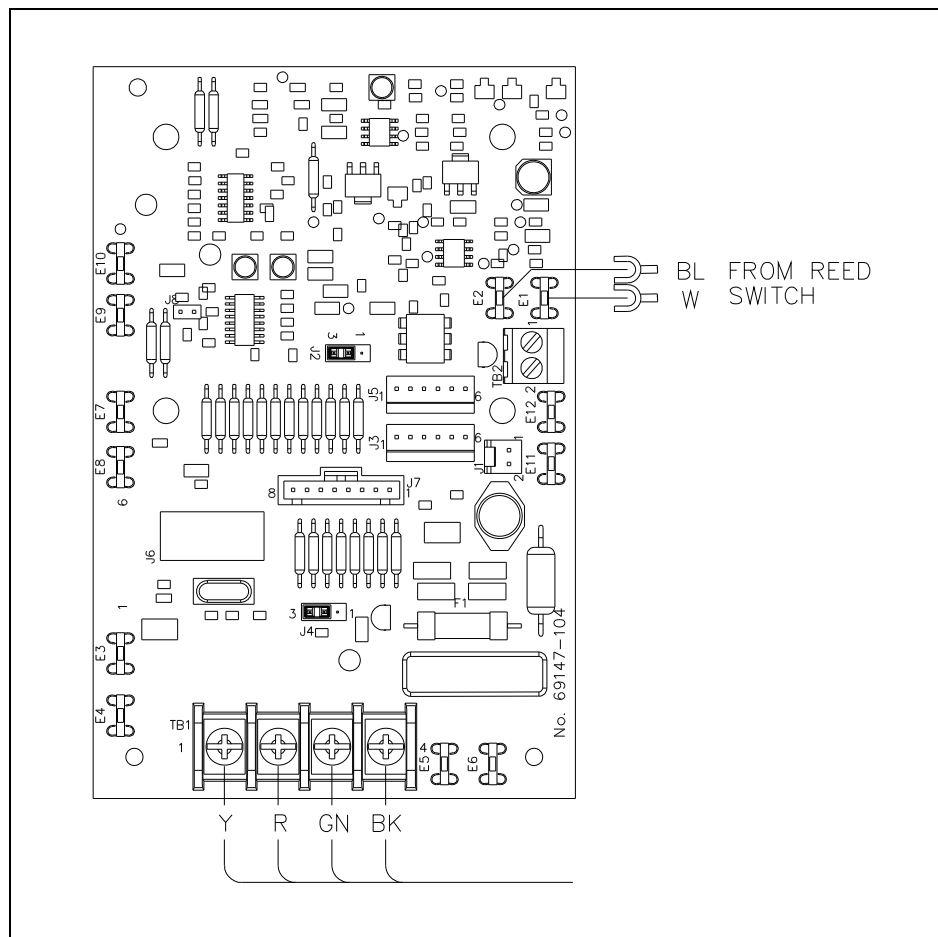
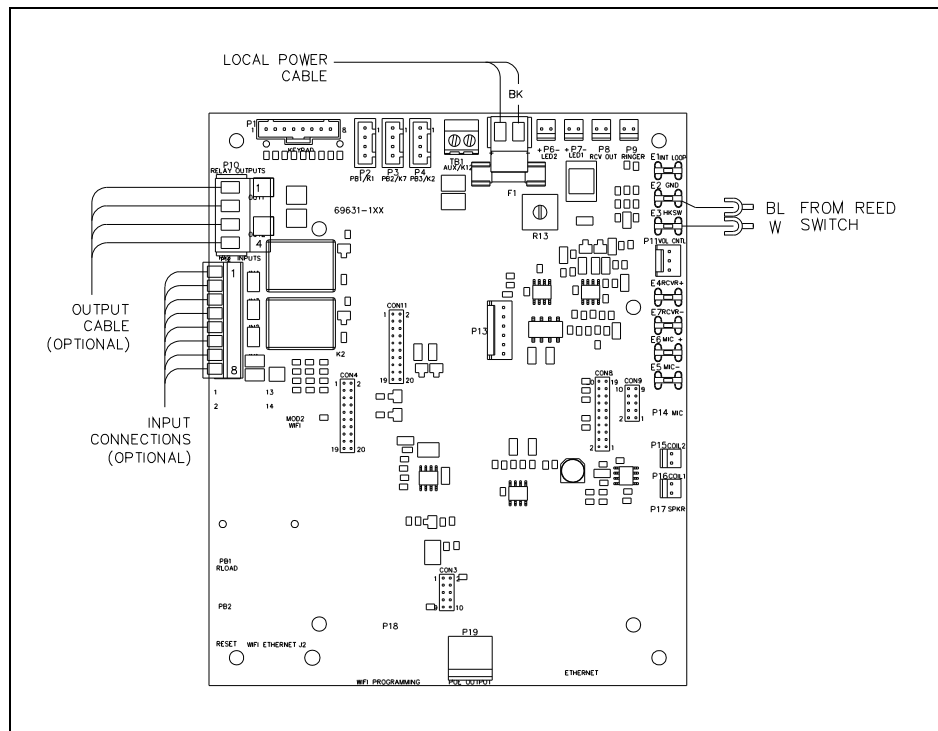

Figure 2. Industrial Telephone PCBA Connections
Figure 3. VoIP Telephone PCBA Connections
2. **Model 210-00x/210-00xBH Series**—Disconnect the red, green, yellow, and black wires from terminal block TB1 on the Industrial Telephone PCBA (See Figure 2).
Model 210-70x/210-70xBH Series—Disconnect the power plug, the network cable, and any auxiliary input/-output cables from the VoIP Telephone PCBA (See Figure 3).
3. Disconnect the blue and white reed-switch spade connectors from the E-clips on the PCBA (See Figure 2 or Figure 3).
4. Plug the spade connectors on the blue and white reed switch wires onto E-Clips on the PCBA (See Figure 2 and Figure 3).
6. **Model 210-00x/210-00xBH Series**—Reconnect the red, green, yellow, and black wires to terminal block TB1 on the Industrial Telephone PCBA (See Figure 2).
- Model 210-70x/210-70xBH Series** —Reconnect the network cable, power cable, and any auxiliary input/output cable plugs on the VoIP Telephone PCBA (See Figure 3).
4. **Model 27x-001BH Series Telephones**—Disconnect the red, green, yellow, and black wires from terminal board TB1 on the Industrial Telephone PCBA (See Figure 2).
Model 27x-700BH Series Telephones—Disconnect the power plug, network cable, and any auxiliary input/output cables from the VoIP Telephone PCBA (See Figure 3).
5. Disconnect the blue and white reed-switch E-clips from the PCBA (See Figure 2 or Figure 3).
3. Attach the spade connectors on the blue and white reed-switch wires to the E-Clips on the PCBA (See Figure 2 or Figure 3 for the exact location).
5. **Model 27x-001BH Series Telephones**—Reconnect the red, green, yellow, and black wires to terminal board TB1 on the Industrial Telephone PCBA (See Figure 2).
- Model 27x-700BH Series Telephones**—Reconnect the power plug, network cable, and any auxiliary input/output cables to the VoIP Telephone PCBA (See Figure 3).